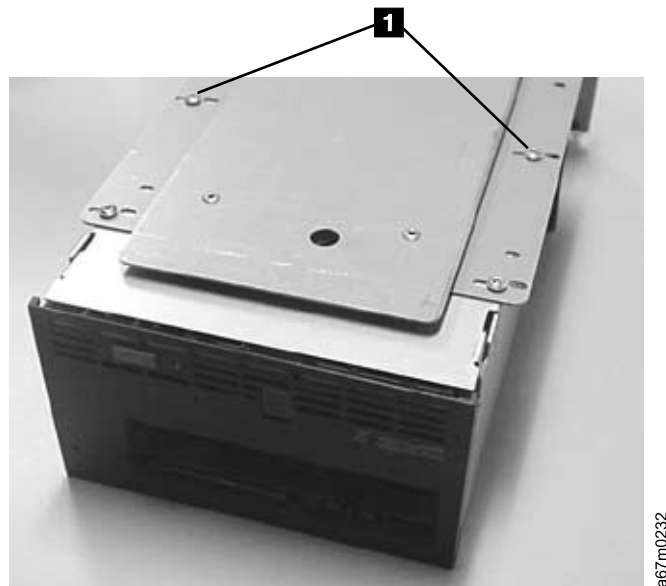

Figure 104. Removing the Four Screws
4. Remove the four screws (see **1** in Figure 104).